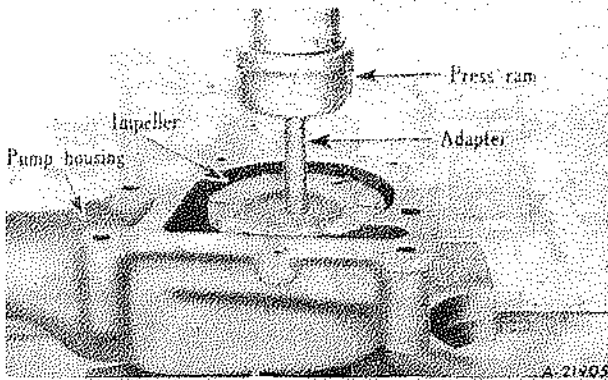

Fig. 29
4. Remove snap ring from front of water pump shaft bearing. Support the water pump on an arbor press and push shaft and bearing out, as one assembly. (Fig. 29).